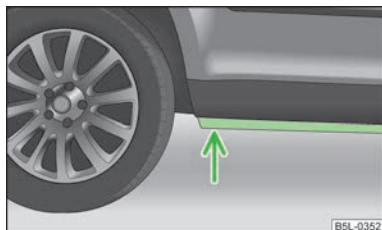

Fig. 111
- Therefore determine the depth of the water before driving through bodies of water. The water level must fit around the strut on the side member as a maximum » Fig. 111;